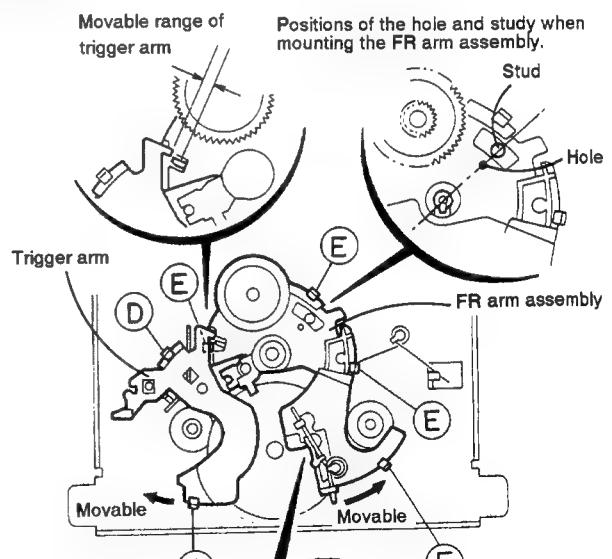

Fig. 5-45
2. Remove the one screw (3) retaining the mechanism P.C. board.
3. Remove the four pawls (C) retaining the mechanism P.C. board assembly.
■ Control Cam (See Figs. 5-45~5-50)
3. Remove the trigger arm. Namely, pull out the trigger arm from the shaft while opening the two pawls (D) at the lower part of the arm.
- b. Pull out the FR arm while opening the four pawls (E) retaining the FR arm outward.